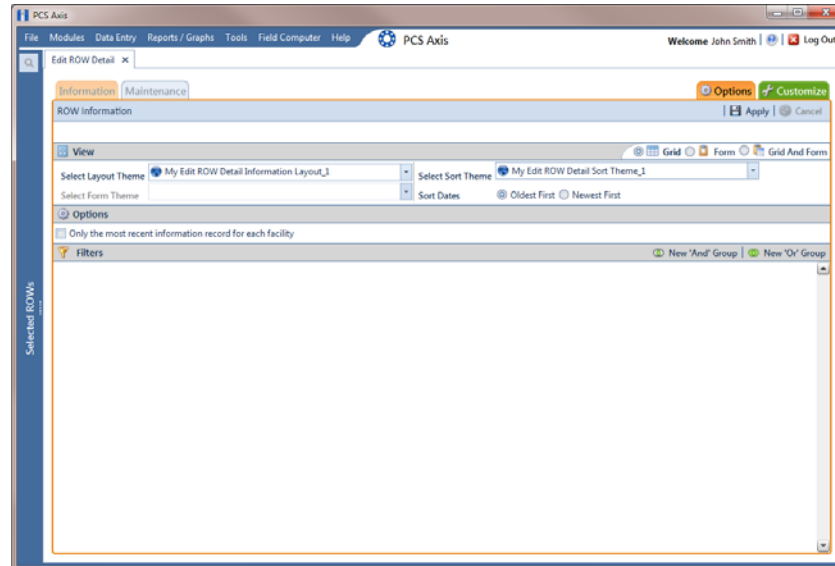

Figure 4-39. Options
- a Click the **Options** tab to open the options page (Figure 4-39, page 175).